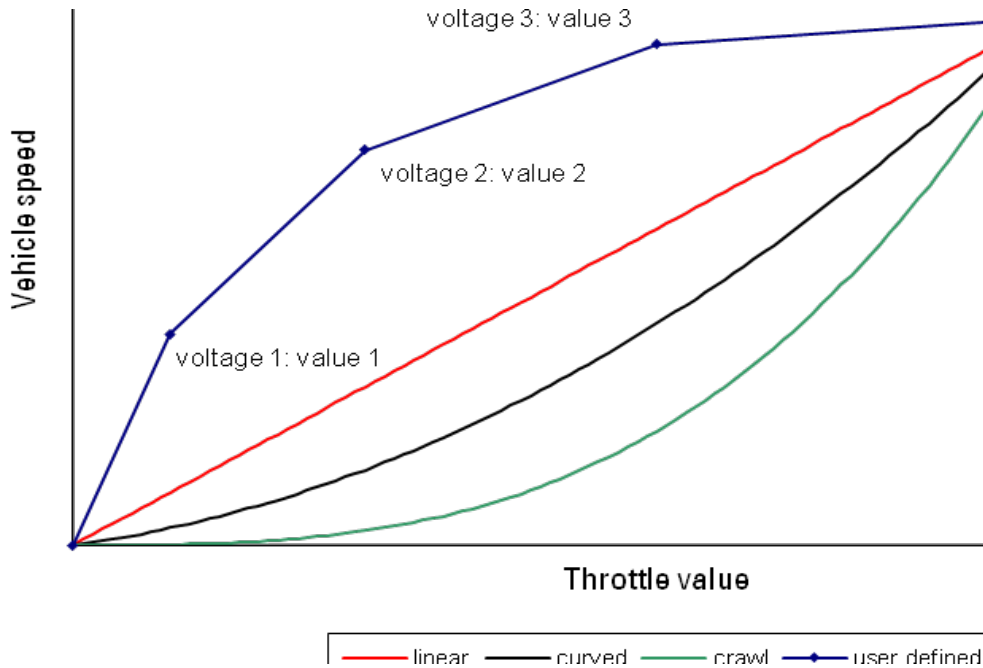

Figure 27 Input characteristics
- Define the input characteristic: this is a profile to the throttle value and can be linear, curved, crawl or user-defined as shown in Figure 27. The curved and crawl characteristics give greater throttle control at low speeds.